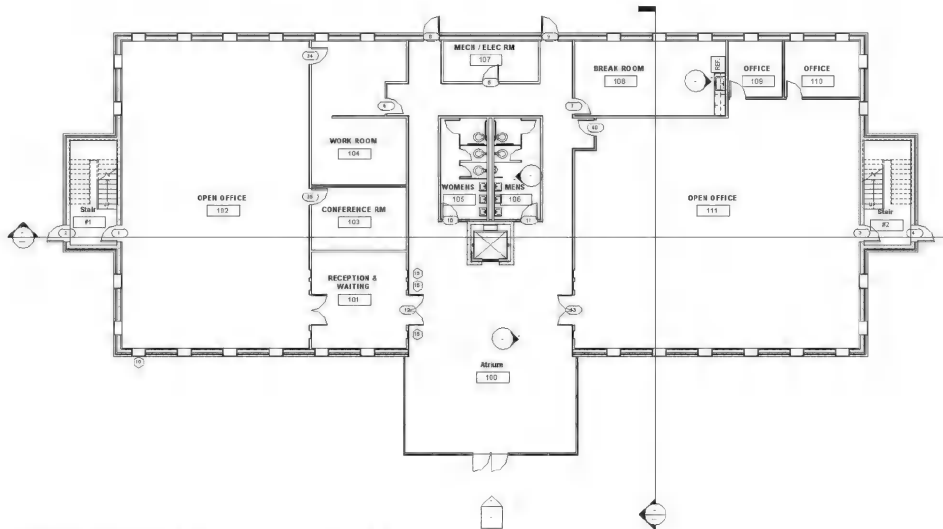

FIGURE 12-1.1 Room tag – Level 1
2. Click your cursor within the atrium area to place a **Room**, which will also automatically place a room tag (Figure 12-1.1).
7. Add *Room Tags* (using the **Room** tool) for each room on Level 1, incrementing each room number by 1 (Figure 12-1.1).